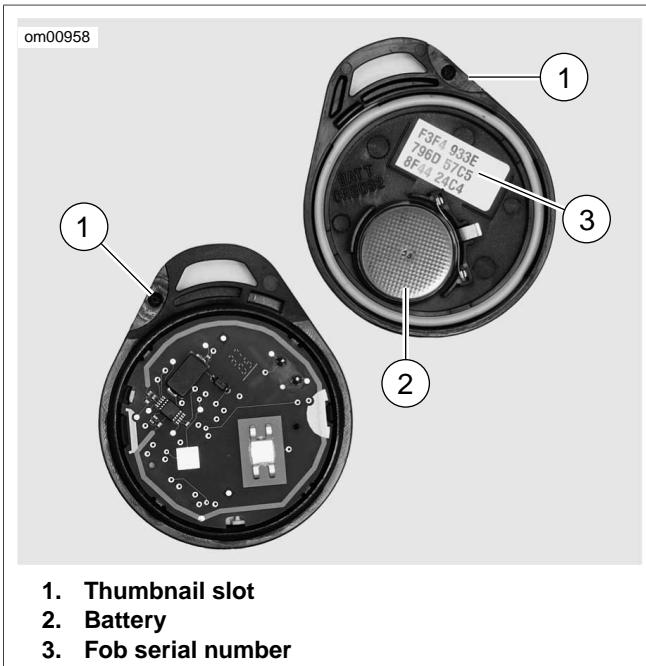

Figure 39. Hands-Free Fob Battery
1. See Figure 39. Slowly turn a thin blade in the thumbnail slot (1) on the side of the fob to separate the two halves.
2. Remove the battery (2) and discard.